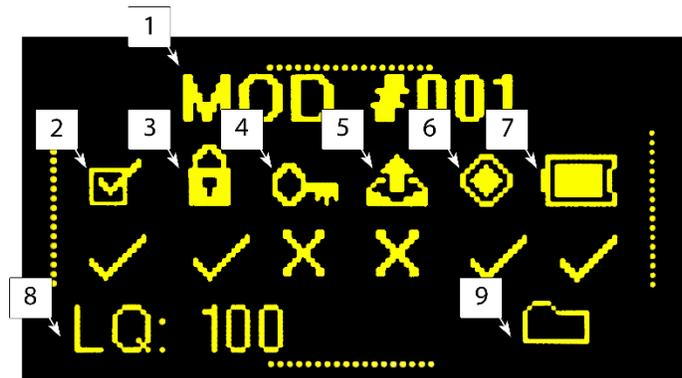

Figure 36
The second page of the MODULE STATUS menu (see Figure 36) shows (1) the module ID number, (2) if the module is getting and responding to heartbeats, (3) if the CM is synchronized with the module (4) if the module is armed (5) if the module is currently firing or has fired (6) if the module is connected (7), the module's battery level (8), the module's current Link Quality (LQ), and (9) the choreography show file. The third page of the MODULE STATUS menu can be accessed by pressing UP – this will bring up an additional menu allowing you to turn off an FM remotely (Disable Mod) or force the FM to re-download its choreography file (Download). Pressing DOWN twice from this menu screen will bring up a guide showing what the icons mean.